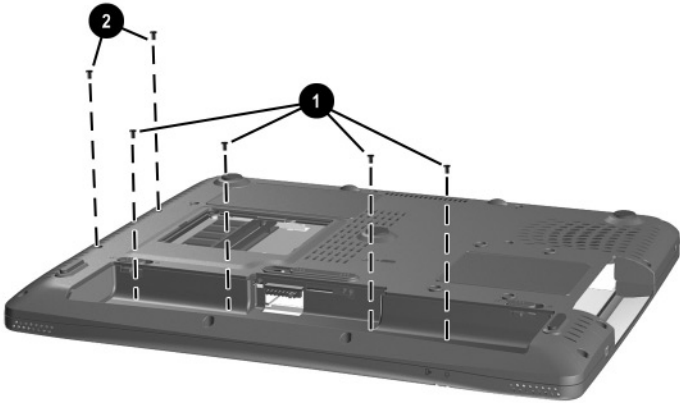

Figure 5-23. Removing the Top Cover Screws
4. Remove the following PM2.5 × 4.0 screws (Figure 5-23):
- ❑ Four screws in the battery bay ❶
- ❑ Two screws in the optical drive bay ❷